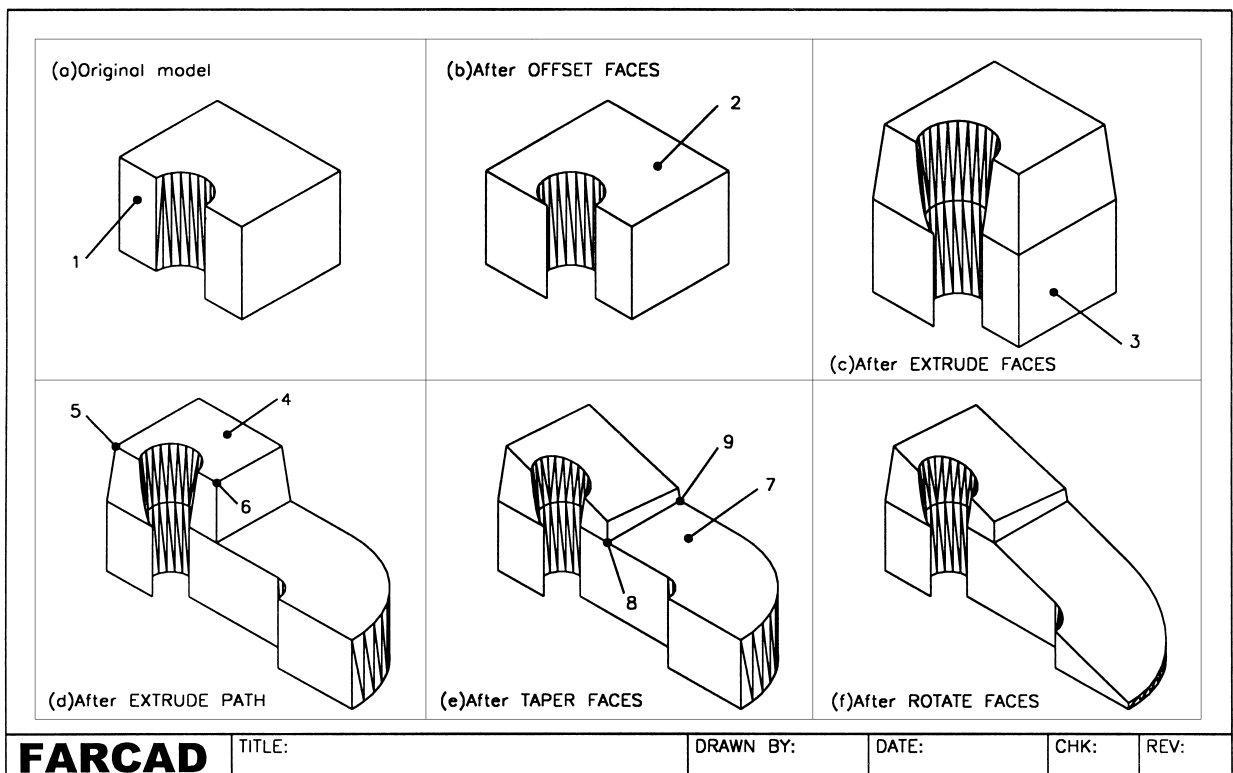

Figure 35.1 Solids editing example 1 – 3D viewport with hide.
- 1 Open your SOLA3 template file and refer to Fig. 35.1. Display the Solids, Solids Editing and Object Snap toolbars.